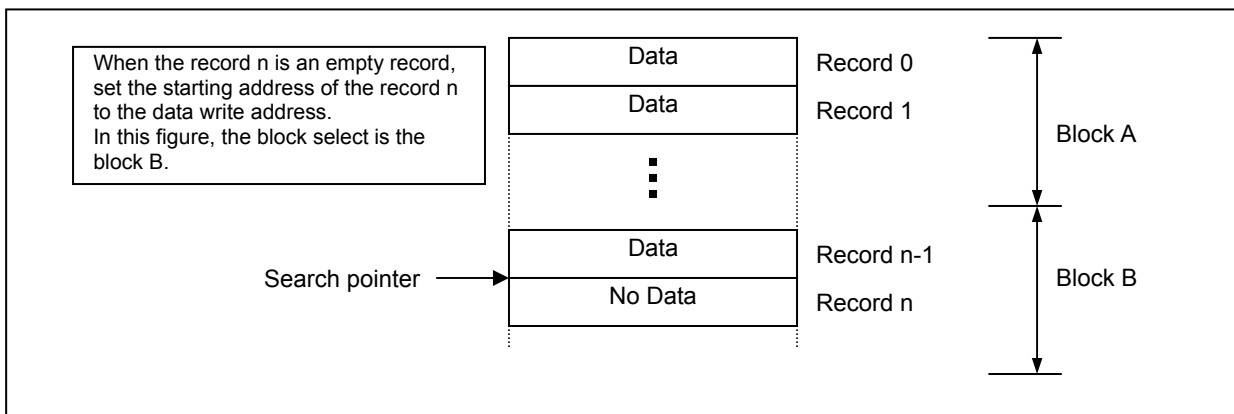

Figure 9. When the Empty Records are Recognized
- (4) Execute (2) and (3) repeatedly until the empty records can be recognized or all records can be checked.
- (5) When the empty records are recognized, set the starting address of empty records to the data write address and memorize the block which stores the records as a block select (Figure 9).